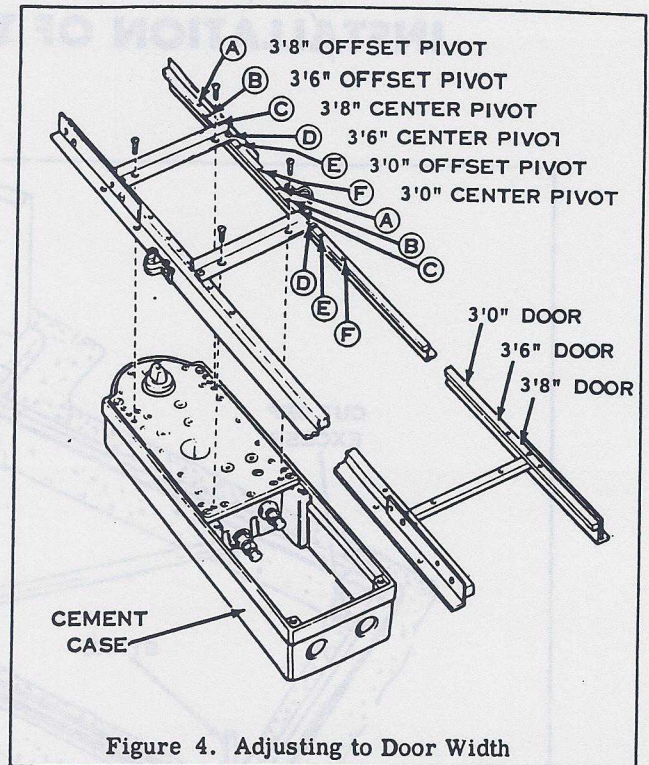
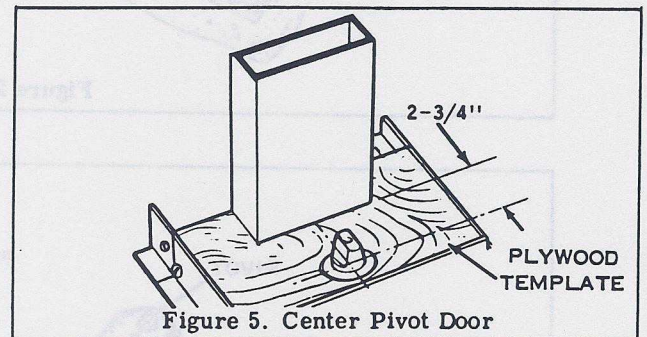
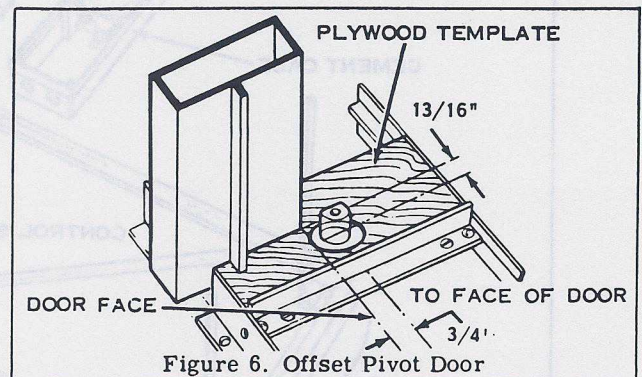
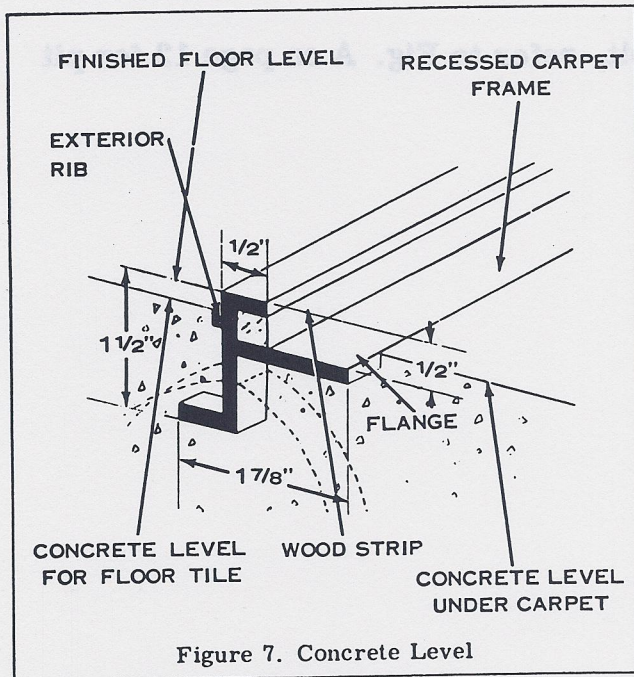

Figure 4. Adjusting to Door Width
Figure 5. Center Pivot Door
Figure 6. Offset Pivot Door
Figure 7. Concrete Level
Attach the cross member to the automatic hinge as shown in Fig. 4 with four #10-32 X 3/8" flat head screws found in the screw bag.
Determine if the hinge and cement case is in its proper position in relation to the cross member and to the particular width door on your installation; Fig. 4 identifies the various attachment holes with various door widths. If the setting straps are not in the correct position, remove the cross members and reattach them in proper location. Trim off excess length of cross members to fit opening width as shown in Fig. 5 or Fig. 6.
For center pivoted doors, install this portion of frame as shown in Fig. 5.
For offset pivoted doors, install this portion of frame as shown in Fig. 6.
Make certain the frame is installed at its proper height, is level and square, plumb with top pivot, and straight between the jambs, the spindle is in its proper location with pivot side jamb as shown in Fig. 5 or Fig. 6.
Trim the wood spacers to fit your installation and place them in position as shown in Fig. 5 or Fig. 6. Make certain the narrow plastic fillers are in place in the carpet edge frame sections as shown in Fig. 7. The cement case and frame is now to be grouted in place as shown in Fig. 2, and this must have sufficient time to set before floor is poured. When the floor is poured, the cement inside of the carpet frame must be trowelled flat, smooth, and flush with top of lower flange.
Refer to Fig. 7 for this phase of installation.
2. Remove parts (figure 3) from the packing container. The threshold frame is shipped assembled for a 3'6" center pivot door. See figure 4 for proper placement of control supports and tie bar for other door sizes. Secure the threshold frame to the cement case assembly with screws.
3. Position the threshold frame and cement case assembly between the door jams. Cut notches in plywood templates and position as shown in figures 5 and 6. These templates will help to secure the threshold frame and cement case assembly in position and will provide a pattern when the aluminum threshold ends are cut to fit the jamb. It is recommended that the assembly be positioned in a bed of concrete to insure a firm set. If unable to position in concrete, set stakes may be used. These stakes may be driven into the ground and the excess cut off the top flush with the conduit clamp. Positioning dimensions for center pivoted doors are indicated in figure 5. Positioning dimension for offset pivoted doors are located in figure 6. Plum, square, and level the assembly.
5. Before securing the recessed frame assemblies to the threshold frame, make sure the threshold frame and cement case is rigidly positioned and level in both directions. Adjust the ends of the recessed frame assemblies to the level of the floor. When installing the frame in a floor that will be tiled, the surface of the floor should be level with the exterior rib shown in figure 7. When installing the frame in a floor that will not be tiled, the surface of the floor should be level with the top surface of the recessed frame.
6. After the threshold frame assembly and cement case have been positioned, the conduit connected, and the recessed frame assemblies leveled, pour concrete in the floor leave out around the frame assembly. The masonry surface inside the recessed frame assemblies over which the carpets will be placed, must be flat, smooth, and free of irregularities. The surface must be level with the flange shown in figure 7.
The automatic hinge is factory adjusted for average opening speed, back-check deceleration, closing speed, and latching speed. However, final adjustments must be made to suit each individual installation. Remove the port caps on the automatic hinge for access to the adjusting screws which are identified on the mounting plate. Turning the adjusting screws clockwise will decrease the various speeds while turning them counterclockwise will increase the speeds. Refer to Fig. 6 and on Page 25 make your adjustments as follows: